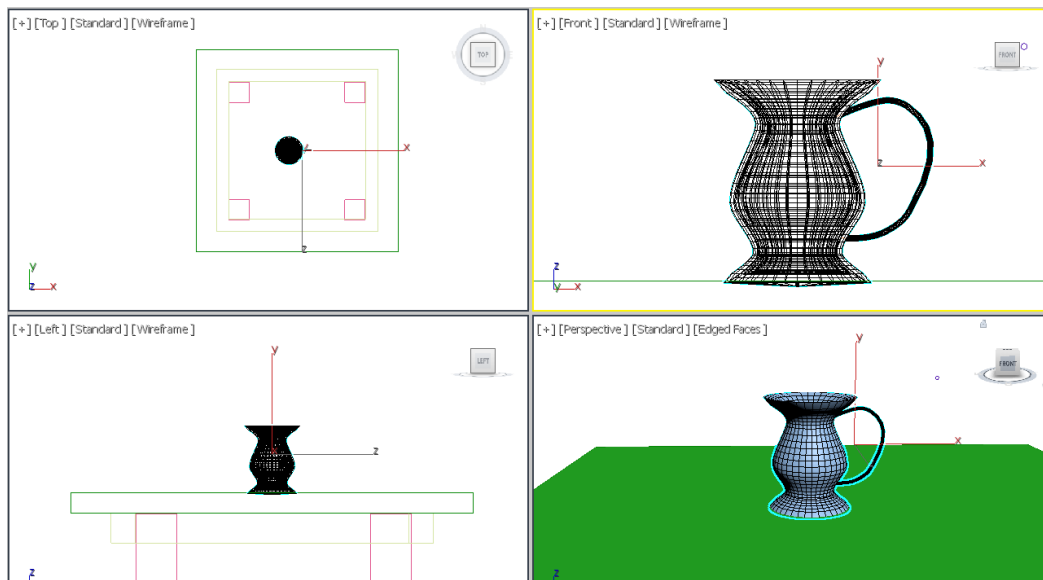

Figure 5-20 Using the boolean operation to join the Handle and Jug
3. Choose the **Add Operands** button in the **Boolean Parameters** rollout. Next, choose the **Union** button in the **Operand Parameters** rollout and select *Jug* in any viewport. Now, invoke the **Select Object** tool from the **Main Toolbar** to complete the operation; *Jug* and *Handle* are joined to make a single object, as shown in Figure 5-20.